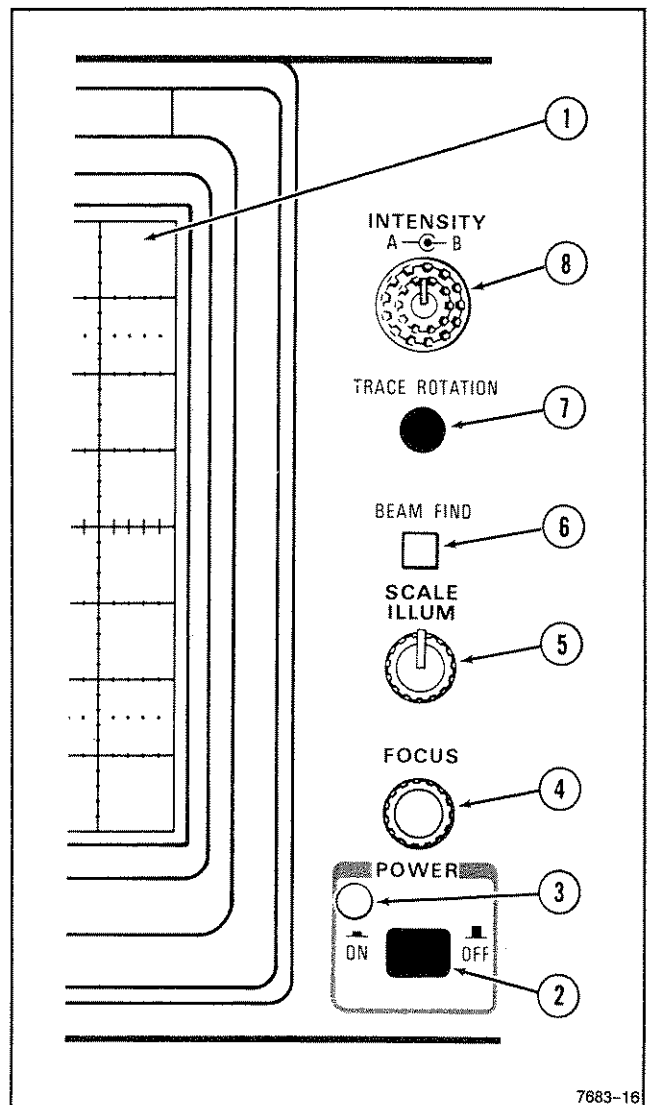

Figure 2-3. Power and display controls and indicator.
Refer to Figure 2-3 for location of items 1 through 8.
- ① **Internal Graticule**—Eliminates parallax viewing error between trace and graticule lines. Rise-time amplitude and measurement points are indicated at the left edge of the graticule.
- ② **POWER Switch**—Turns instrument power on and off. Press in for ON; press again for OFF.
- ③ **Power Indicator**—An LED that illuminates when the instrument is operating.
- ④ **FOCUS Control**—Adjusts for optimum display definition.
- ⑤ **SCALE ILLUM Control**—Adjusts the light level of the graticule illumination.
- ⑥ **BEAM FIND Switch**—When held in, compresses the display to within the graticule area and provides a visible viewing intensity to aid in locating off-screen displays.
- ⑦ **TRACE ROTATION Control**—Screwdriver adjustment used to align the crt trace with horizontal graticule lines.
- ⑧ **A and B INTENSITY Controls**—Determines the brightness of the A and B Sweep traces.